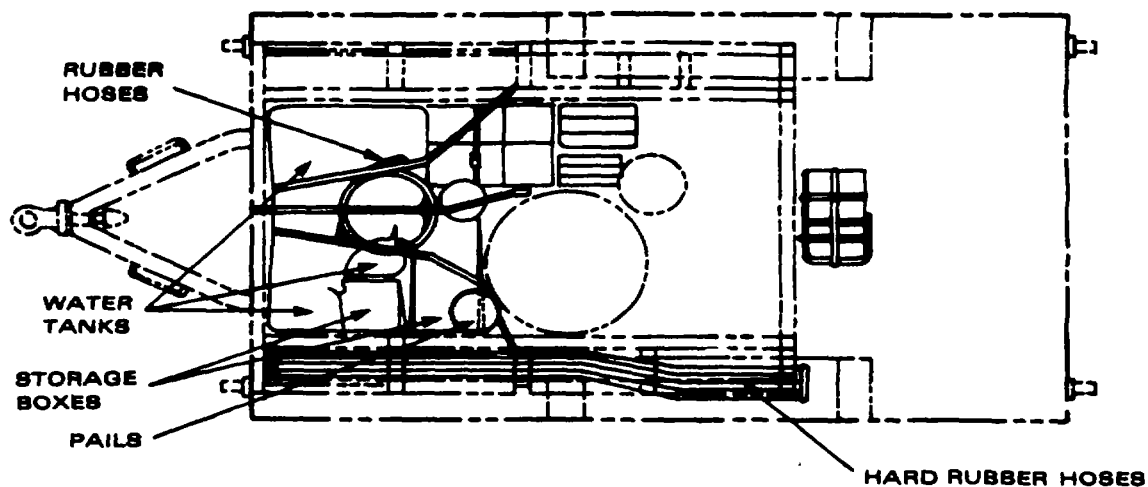

Figure 1-3. Top View Of ROWPU With Operating Equipment Stored (Army)
(1) Flow systems within the ROWPU process raw water to make it drinkable. Special pumps, controlled by a built-in control panel, move the water through the ROWPU to produce as much as 10 gallons (37.8 liters) of drinking water per minute. This water is stored in a collapsible tank that can hold up to a total of 1,500 gallons (5,670 liters) or 3,000 gallons (11,340 liters). The ROWPU can be transported by rail, road, or air.
(3) The Army and Marine Corps units are essentially the same except that the Marine Corps' ROWPU is mounted on a skid and does not incorporate a generator.
**1-6. LOCATION AND DESCRIPTION OF MAJOR COMPONENTS.** The Army ROWPU is 18 feet (5.5 meters) long, 8 feet (2.4 meters) high, and 8 feet (2.4 meters) wide. It weighs about 8 ½ tons (7.71 metric tons), including the generator set. Figure 1-3 shows the ROWPU from the top with its canvas cover removed. Take a close look at how all the necessary operating equipment is stored on the trailer for transport and shipment.
a. To provide room for all operating components, material is stored in layers (fig. 1-3 and 1-4). The top layer consists of rolled-up (suction) hoses on top of two folded water tanks. Stored between the tanks is a sledge hammer and a collapsed telescopic aluminum paddle. Next to the tanks is a stack of five plastic pails with chemical names on their sides. On the same side of the ROWPU you will find two storage boxes fastened with a strap under the tanks. The boxes contain various chemicals, tools, and installation items. Nine sections of suction hose are stored on the side of the frame.